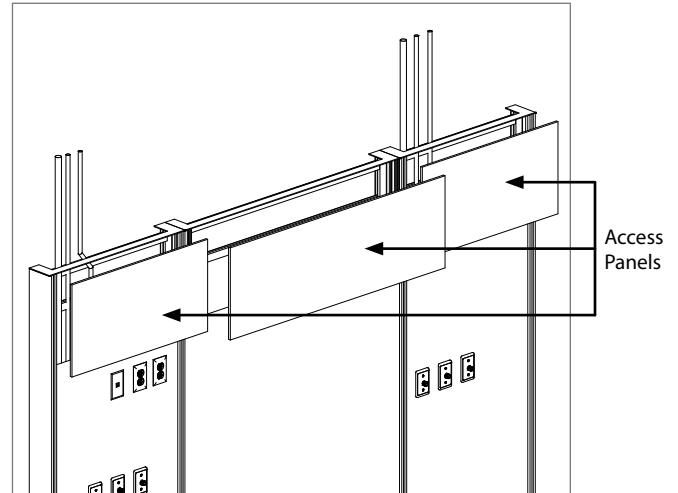

Figure 8
1. Use the provided suction cup to remove the access panels (**Figure 8**). Be careful not to drop the panels.